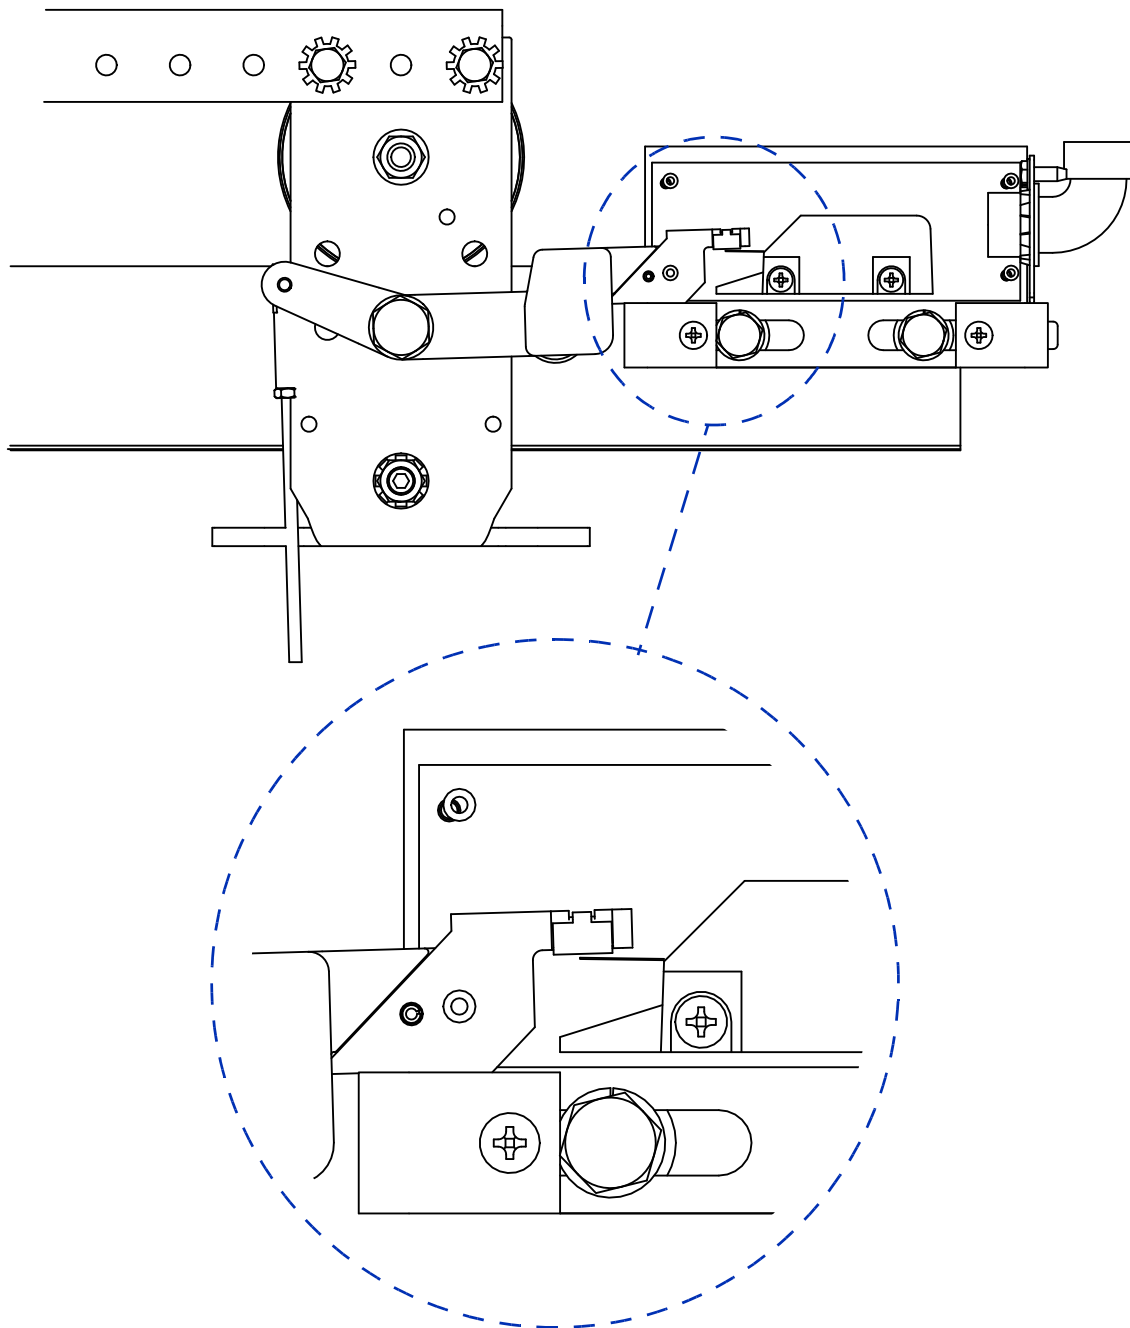

Figure 44 - Two Speed Interlock Adjustment
3. Close the doors, and verify the following. See Figure 44 on page 7-49.